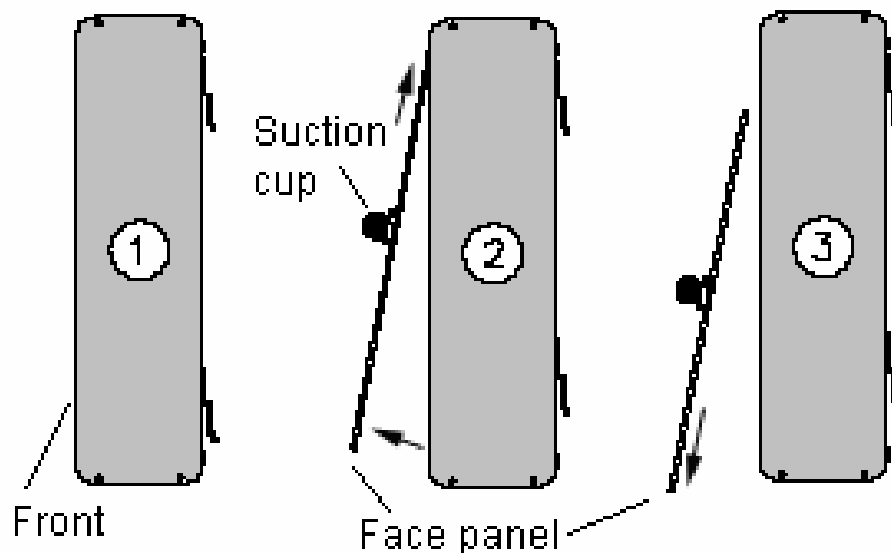

Figure 19: Removing the Face Panel
The internal components of the KE-1010 displays may be accessed after the face panel and modules are removed. Refer to **Figure 19** for a visual diagram of the steps involved in removing the face panel. **Never** attempt to lift the entire display or carry the face panel using the suction cups.
2. Using the suction cups provided with the display, slide the face panel up toward the top of the display (**Figure 19**).